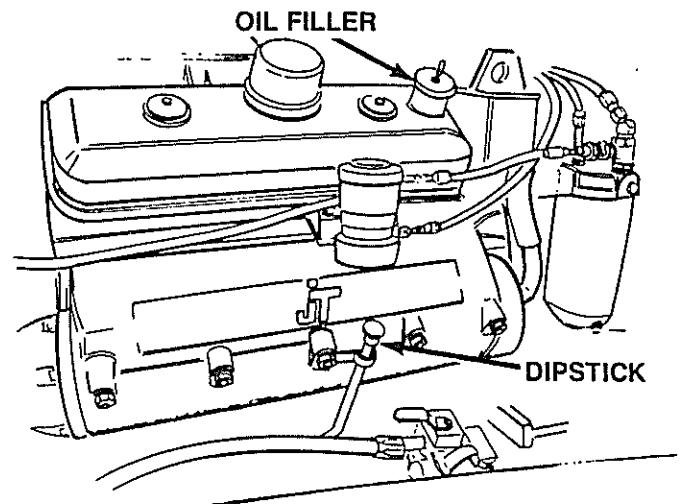

Figure 3-2 Checking Engine Oil
5. Check the engine oil level. See Figure 3-2. Pull out dipstick and make sure level is up to upper mark.